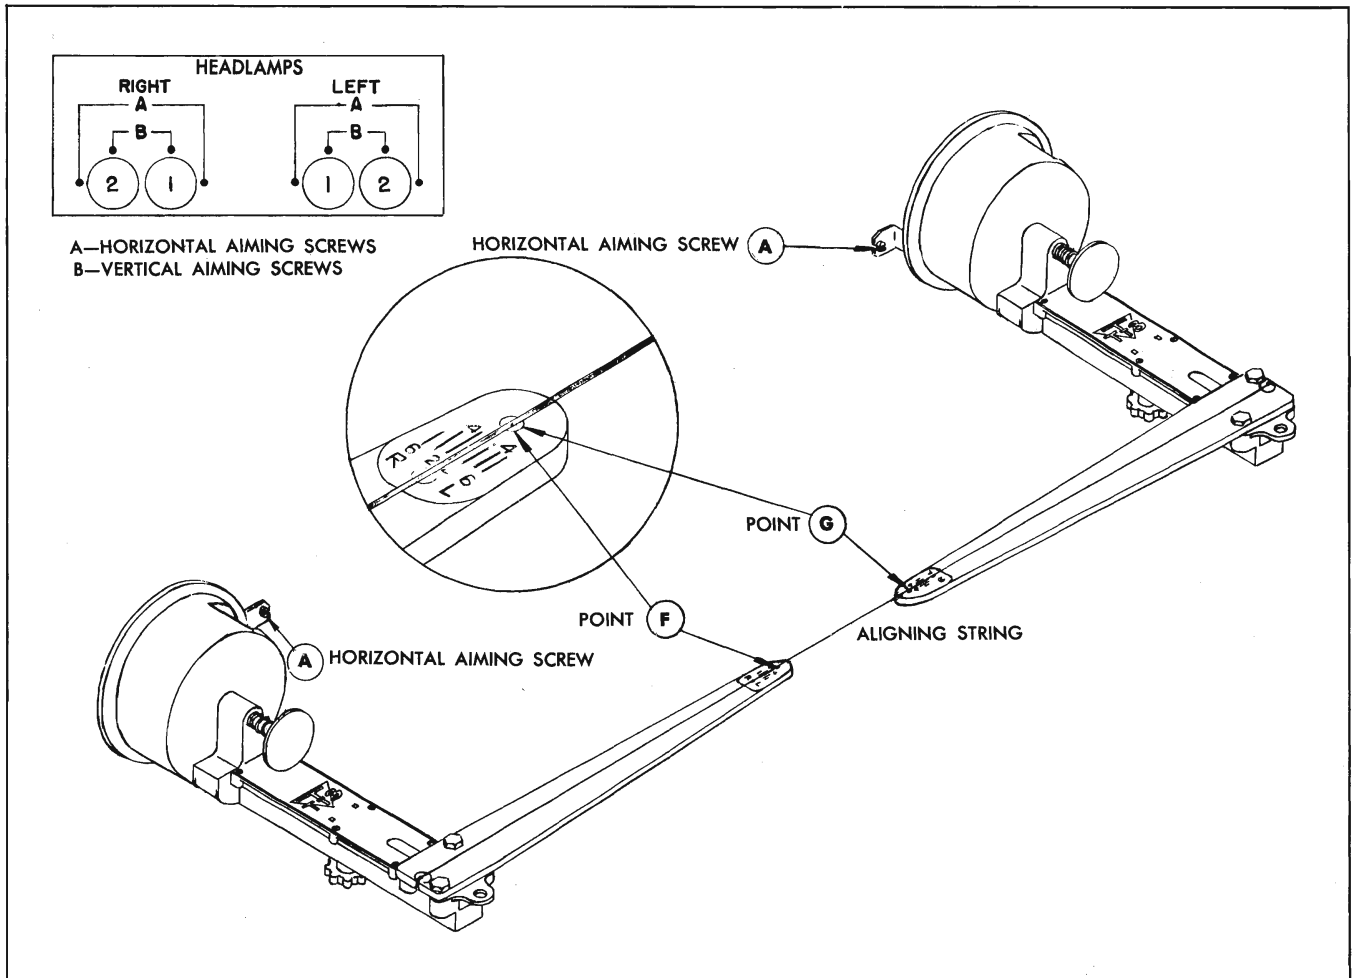

Fig. 11-124 Horizontal Aim Adjustment
- a. Rotate aimers around headlamp units so that points "F" and "G" (Fig. 11-124) just clear string.